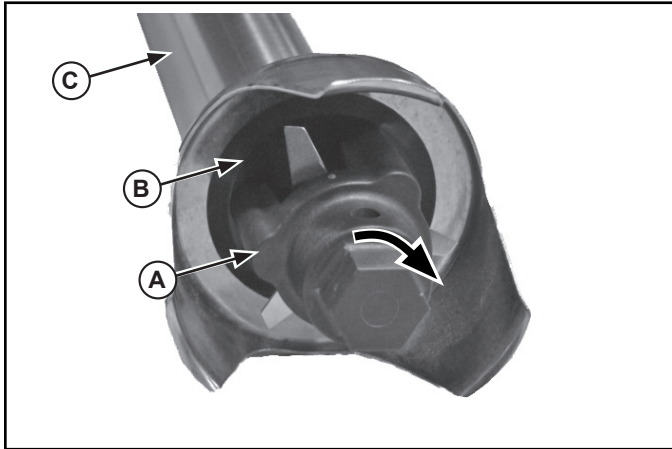

Figure 11. Blade Shaft Assembly Installation.
11. Place the blade tool (A) on the dimples on the blade shaft assembly (B). See Figure 11.